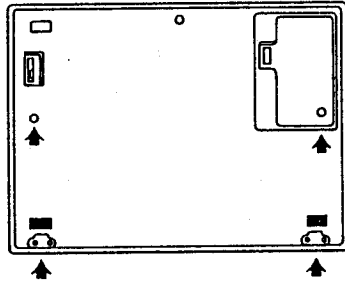

Fig. 2-1-9
- ① Turn off the base unit power. Verify that the power indicator goes out.
- ② Turn over the base unit, remove the battery box cover screws and the cover itself.
- ③ Remove the main battery from the base unit with the cable still connected (see note 1).
- ④ Remove the four screws indicated in Fig. 2-1-9.
- ⑩ After verifying that the ROM is mounted securely, return the lever to its down position to secure the ROM.
- ⑪ Set the ROM switch corresponding to that ROM socket to the capacity of the installed ROM chip.
- ⑫ Insert the keyboard into the base unit, align it carefully, and then turn the base unit rear side up again. Take care that the battery remains connected at all times.
- ⑬ Tighten the four screws indicated in Fig. 2-1-9 to secure the keyboard.
- ⑭ Return the main battery to the battery box.
- ⑮ Close the battery box cover and secure it with the screws.